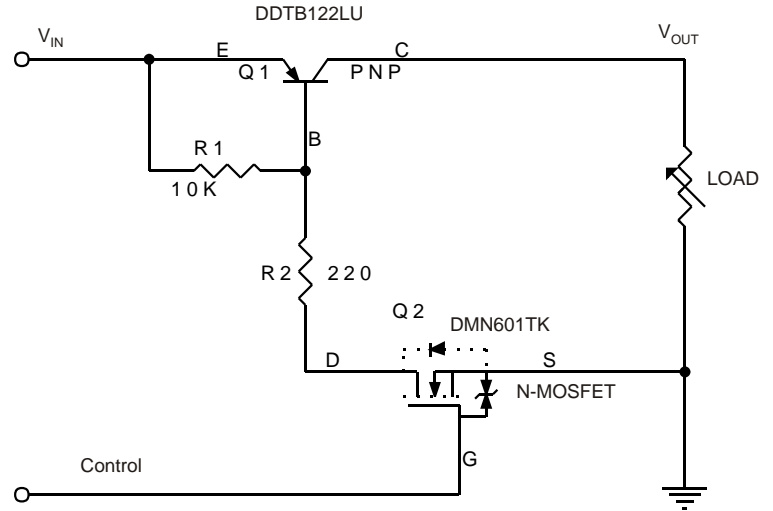
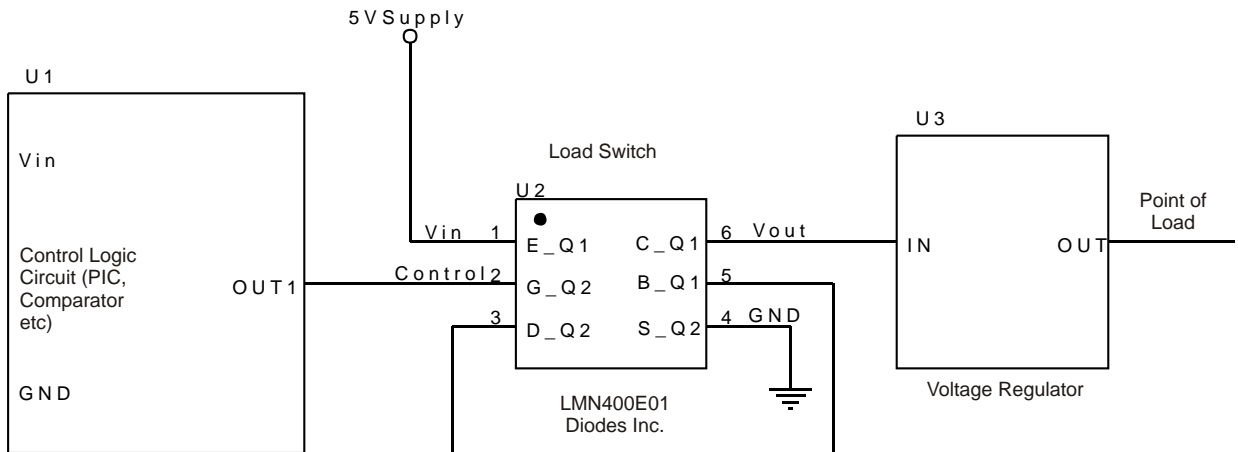

Fig 20 : Circuit Diagram
Fig 21
- PNP Transistor (DDTB122LU) and ESD Protected N-MOSFET (DMN601TK) integrated as one in LMN400E01 can be used as a discrete entity for general application or as an integrated circuit to function as a Load Switch. When it is used as the latter as shown in Fig. 20, various input voltage sources can be used as long as it does not exceed the maximum ratings of the device. These devices are designed to deliver continuous output load current up to a maximum of 400 mA. The MOSFET Switch draws no current, hence loading of control circuitry is prevented. Care must be taken for higher levels of dissipation while designing for higher load conditions. These devices provide high power and also consume less space. The product mainly helps in optimizing power usage, thereby conserving battery life in a controlled load system like portable battery powered applications. (Please see Fig. 21 for one example of a typical application circuit used in conjunction with a voltage regulator as a part of power management system).